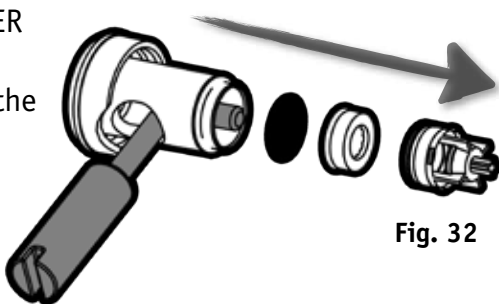

Fig. 32
1) Insert the bent end of the FILTER HOUSING REMOVAL TOOL (provided) through the hole in the side of the FILTER HOUSING 21 and gently push all the components out (Fig. 32)